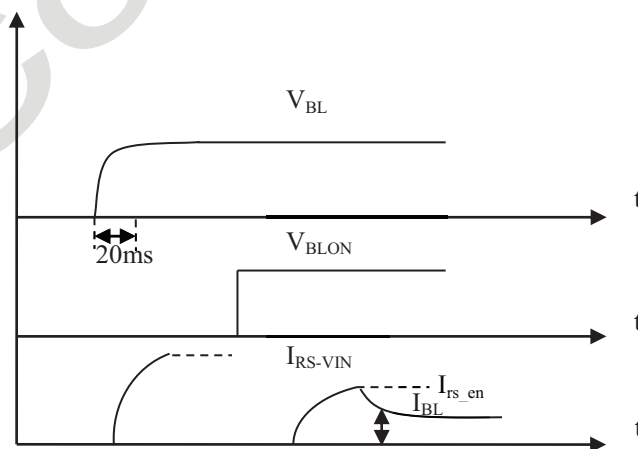

Fig. 3.4 The timing sequence diagram of inrush current measurement
(1) Dimming ratio = 100% (Max.) ($T_A = 25 \pm 5 \text{ }^\circ\text{C}$, Turn on for 45minutes), One converter's power consumption.,total converter is 4 Pcs.
(2) The measurement condition: VBL rising time is 20 ms. (V_{BL} from 10% ~ 90%), the sequence diagram is shown as Fig. 3.4.